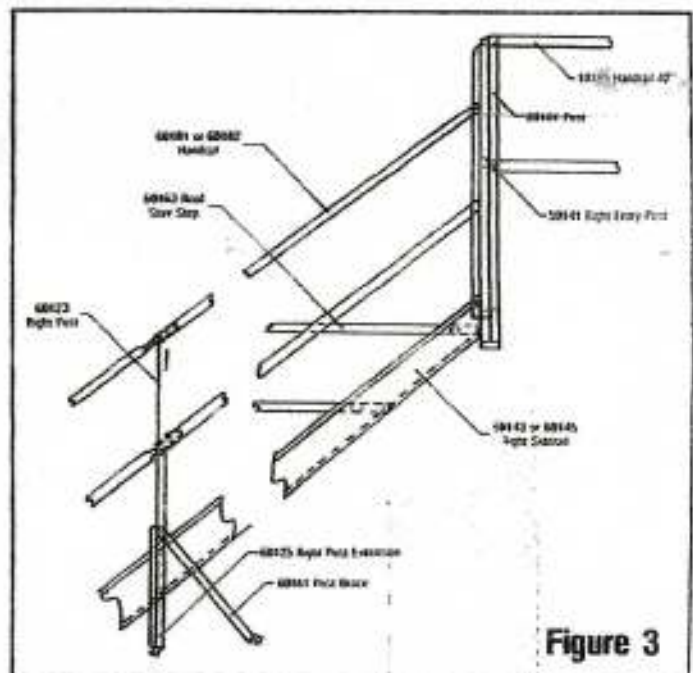

Figure 3
- Step 1: Attach right entry post 50141 with beveled end up to a handrail post 80101, using (3) 5/16" x 3/4" bolts. Refer to Figure 3.
- Step 2: Attach left entry post 50142 with beveled end up to a handrail post 80101 using (3) 5/16" x 3/4" bolts. Refer to Figure 3.